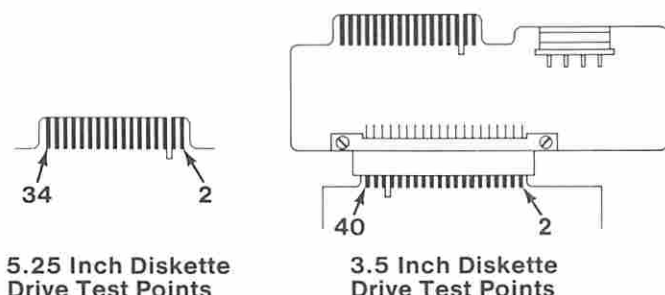

Figure 21. Voltage Check
- Power on the system and check the voltage of pin 16 on the circuit board of the failing diskette drive (Figure 21 on page 0600-28). The voltage should be 2.0 to 5.5 Vdc.